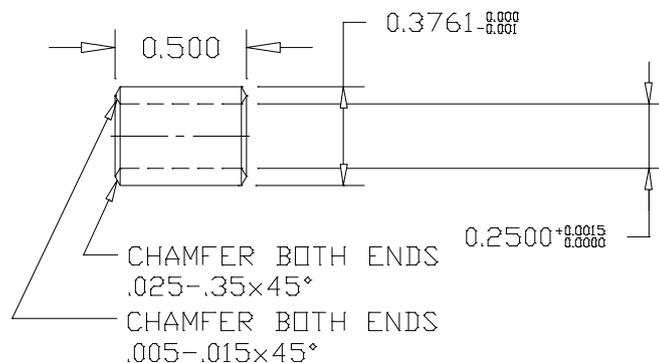

Figure 2 – Bushing manufacturing details (Alum. Bronze AMS 4631)
- d. Drill a 3/32 inches lubrication hole through the centre of a NAS76-04-016 plain bushing and deburr. If the NAS76-04-016 bushing is not available a bushing can be manufactured as per Figure 2.